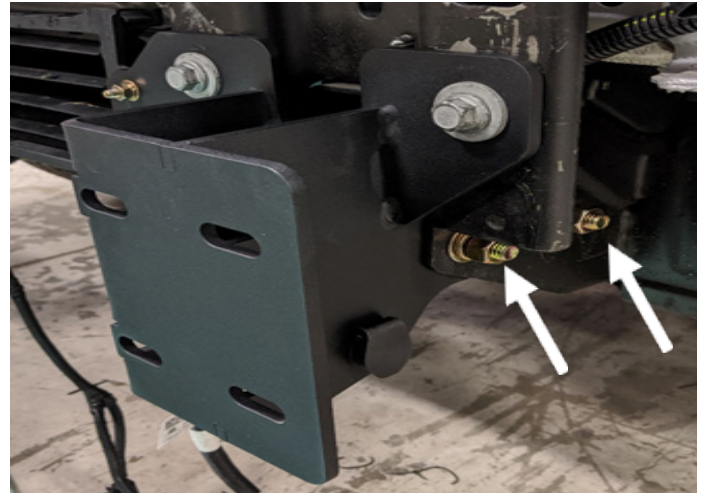

Figure 23
22. Using the provided four (4) bolt stacks of 1/2"-13 x 4.5" yellow zinc hex bolt, flat washers, lock washer, and hex nut, loosely install them into each frame rail and bracket (22094 & 22095) (50217-HW). Figure 23
24. Using both a 3/4" socket wrench and 3/4" open end wrench, fully tighten down the four (4) 1/2"-13 hex bolts on both frame rails. Figure 23
25. If equipped, install the engine heater plug into the driver side bracket (22094) in a manner opposite of the removal. Figure 23